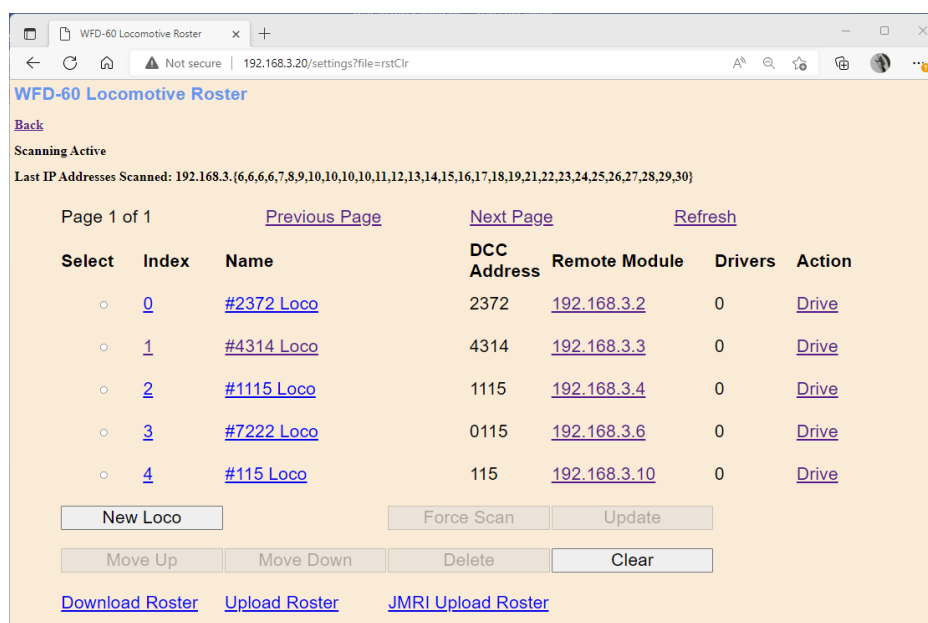
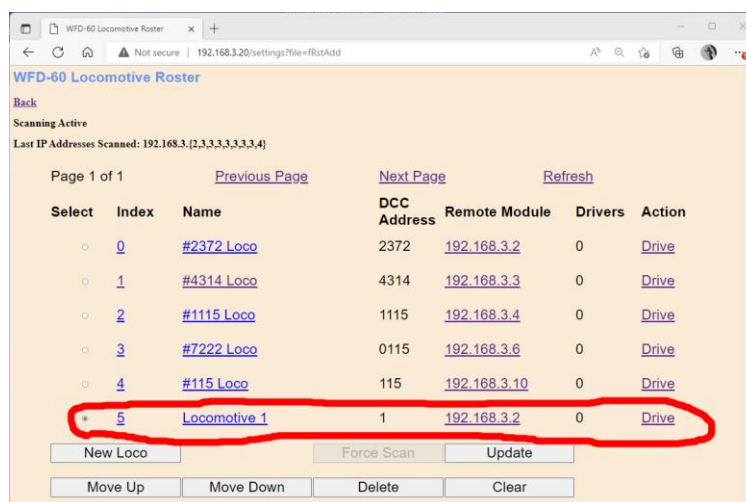
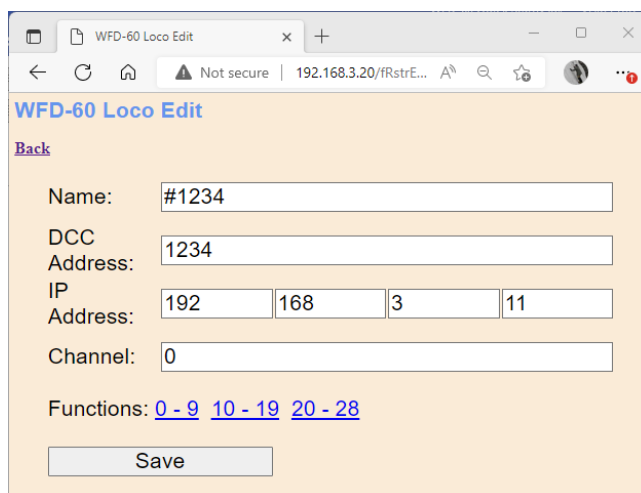

Figure 37 The Locomotive Roster Page
Figure 39 The Locomotive Roster Page after the New Loco Button is Clicked.
Figure 40 The Loco Edit Page. Setting the Properties of a New Locomotive to Useful Values.
The Locomotive Roster Page in Figure 37 shows the locomotives fitted with Wifitrax modules on your home net that are available to drive from the WFD-60. This is its Locomotive Roster. This roster will be delivered to a WiThrottle Protocol app such as Engine Driver or WiThrottle or a device such as UWT-100. The roster on those devices will appear in the same order as displayed on this page.
- (2) By adding locomotives manually. The New Loco button on the Locomotive Roster page will add a new locomotive to the roster. The new loco, in Figure 39, will have default values which will not normally represent a loco on your layout, so you will have to define the settings manually as in Figure 40.
Up to 100 locomotives can be recorded in the Locomotive Roster and entries are indexed from zero to 99. The index value defines the position in the roster and roster entries displayed on the Locomotive Roster Page in Figure 37 are paged with ten entries per page, the Previous Page and Next Page hyperlinks enabling access to the required page.
Each time a Wifitrax module in a locomotive responds to the scanning message, the WFD-60 will add the locomotive to the roster at the lowest available index position. The Name of the locomotive will be set to the Name of the module as defined in its Settings page, joined to the name of the Locomotive in the module's Locomotive page. The DCC address will be the value defined in the module's Locomotive page. So, for the first loco in Figure 37, the module name was set to "#2372" and the Locomotive name was set to "Loco". The DCC Address was set to 2372 in the loco module and the locomotive was found at IP Address 192.168.3.2.
Clicking the hyperlink on Figure 37 formed by the index or the name of the Locomotive, will open the Loco Edit page in Figure 40. Do not click the Remote Module hyperlink at this time.